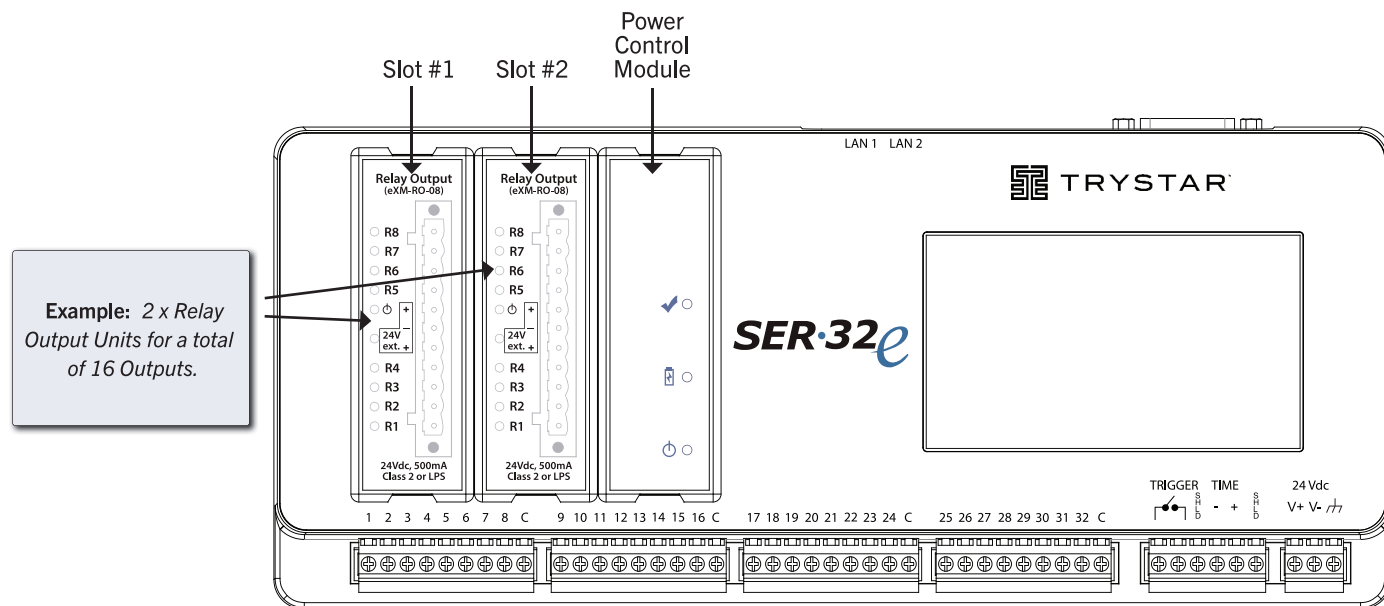

Figure 1-3. SER-32e with 2 x Relay Output Modules Added
The Relay Output Module is installed by inserting it into either of the two (2) option slots on the SER-32e (slot 1 or slot 2). (see figure 1-3)